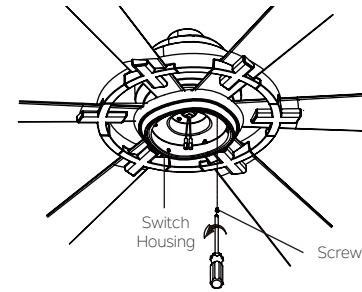

Fig. 21
**Step 1.** Remove one of three screws on the switch housing and keep for later use, loose the other two (do not remove). (Fig. 21)